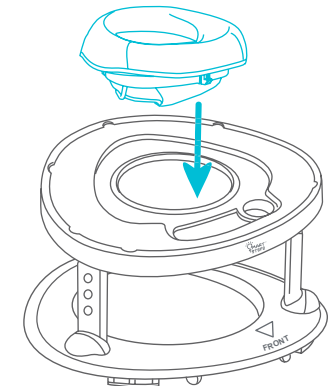

Fig. 3b
- If needed, align the seat to the center opening and press it down firmly. The seat must completely click into to the tabletop (Fig. 3b).